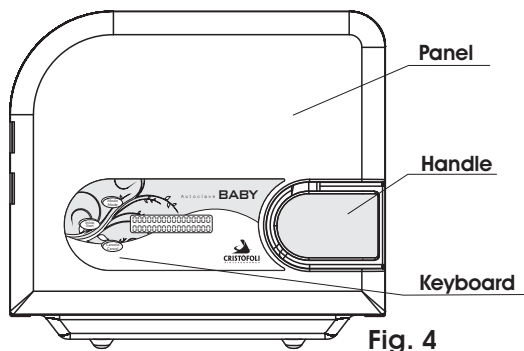
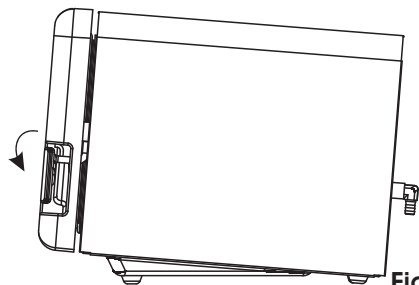

Fig. 4
Fig. 14
- 1► **PANEL** - It is in the front part of the autoclave, made with ABS injected plastic, it is where the keyboard and display are located (Fig. 4).
- 3► **KEYBOARD** - Located in the panel, it is where the control keys and display of the autoclave are (Figs. 4 and 5).
- 5► **HANDLE** - Located in the front part of the autoclave (Fig. 4). It's used to open, close and lock the autoclave door (panel/lid set). To check the door correct locking position see Figs. 14 and 15 (Page 13).
- Close the door of the autoclave. To close it correctly, with the door open and the handle all the way to the left, close the door by pressing it against the chamber, slide the handle to the right, and then press it all the way down until it's aligned with the panel (Figs. 14 and 15). To open the autoclave, follow the same procedure reversing this sequence.